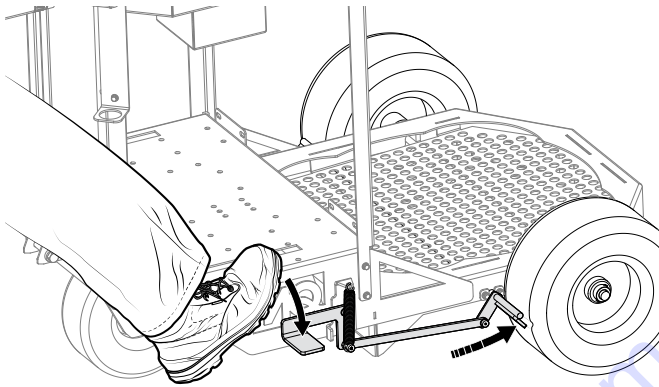

Figure 11. Engage Parking Brake
1. Engage the parking brake to secure the spray cart in place (Figure 11).